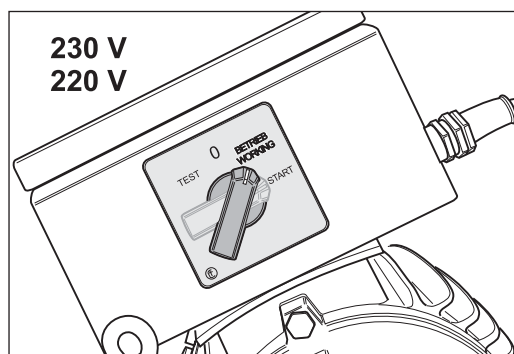

Fig. 20 Once the motor has reached its full speed, release the switch button. The switch button will then automatically move to position -BETRIEB (WORKING)-.
- 3 Once the motor has reached its full speed, release the switch button. The switch button will then automatically move to position -BETRIEB (WORKING)- (Fig. 20).